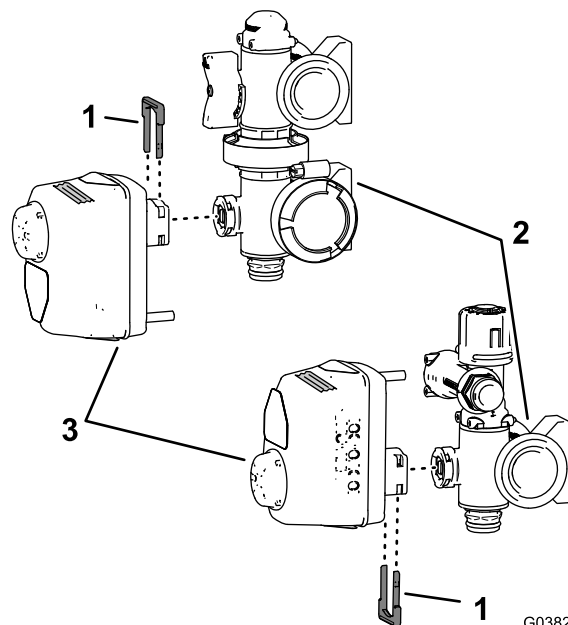

Figure 52
2. Remove the retainer that secures the valve actuator to the manifold valve and separate the actuator from the valve (Figure 52).